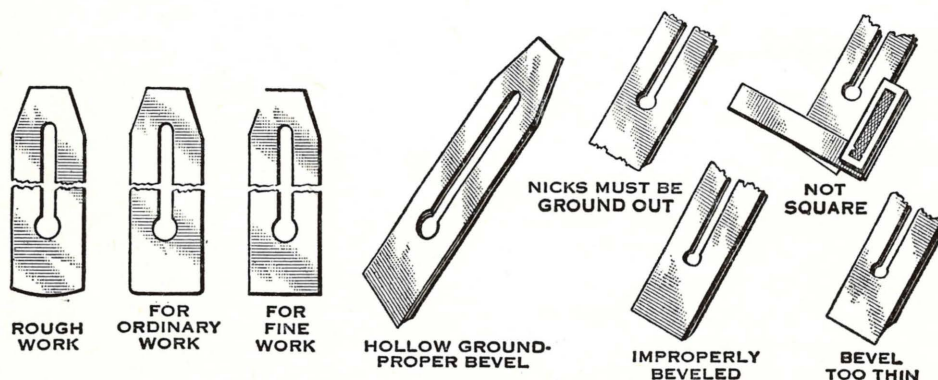

Fig. 572—The plane blade must be ground to the correct shape
- (a) Test for squareness with a try square. (See Fig 572.)